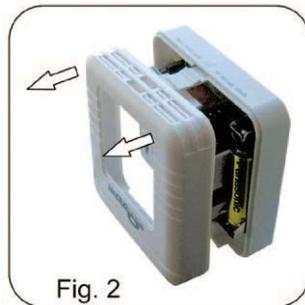

Fig. 2
- › Remove the front cover with your hand holding both sides of the cover (see figure 2).